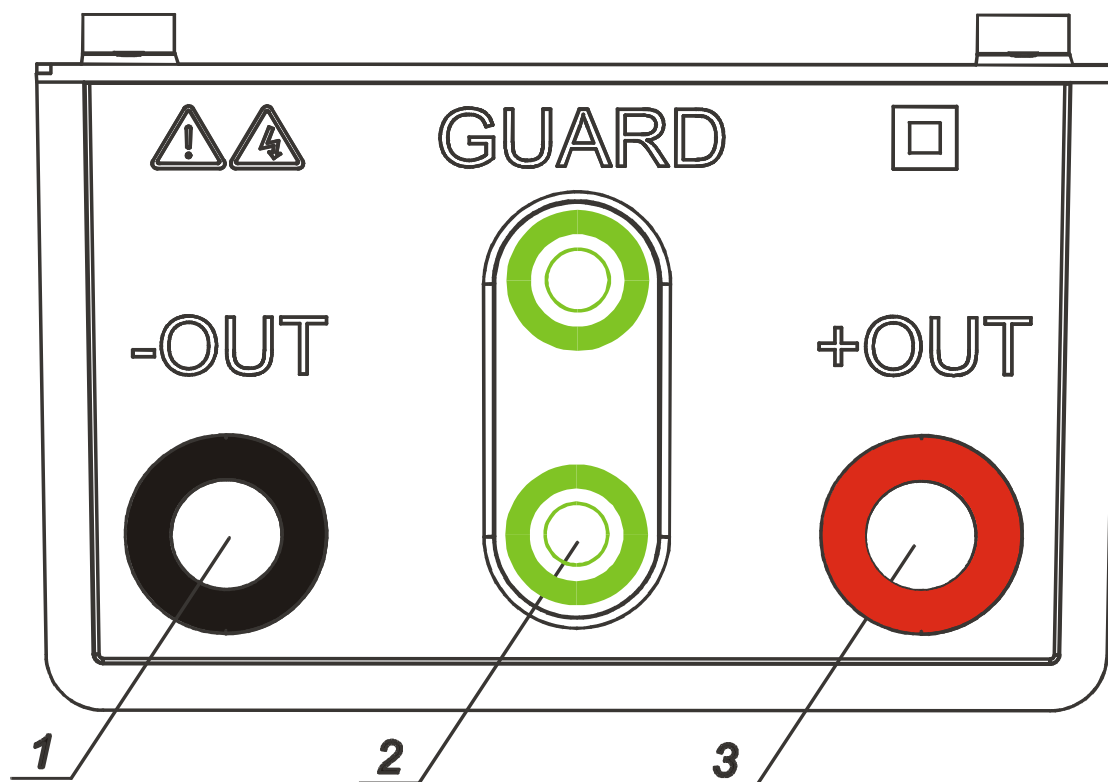

Fig. 3. Test leads connector
- Connection of test leads to four banana safety sockets (**Fig. 3**),